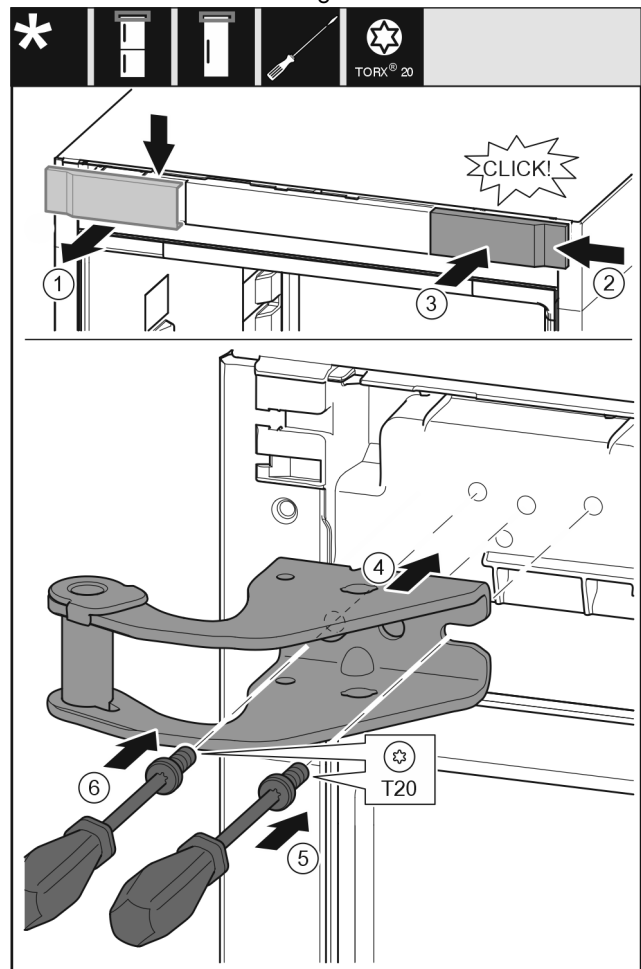

Fig. 9
- ▶ Take off the cover to the front from above. Fig. 9 (1)
- ▶ Rotate the cover 180° and clip onto the other side from the right. Fig. 9 (2)
- ▶ Latch the cover into place. Fig. 9 (3)
- ▶ Position the upper bearing bracket. *Fig. 9 (4)*
- ▶ Insert the screw with a T20 screwdriver and tighten it. *Fig. 9 (5)*
- ▶ Insert the screw with a T20 screwdriver and tighten it. *Fig. 9 (6)*